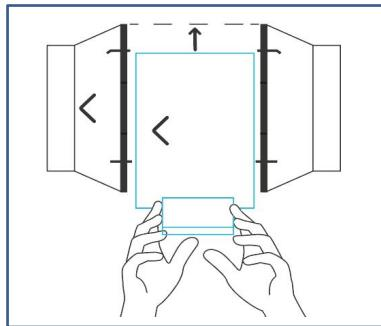

Fig.9.
4、Slide the motor box back into the flange bracket, making sure its airflow arrow is pointing in the same direction as the flange bracket's arrow. Tighten the metal clamps using a Phillips screwdriver and pliers to secure the motor box. See the (Fig.9.)